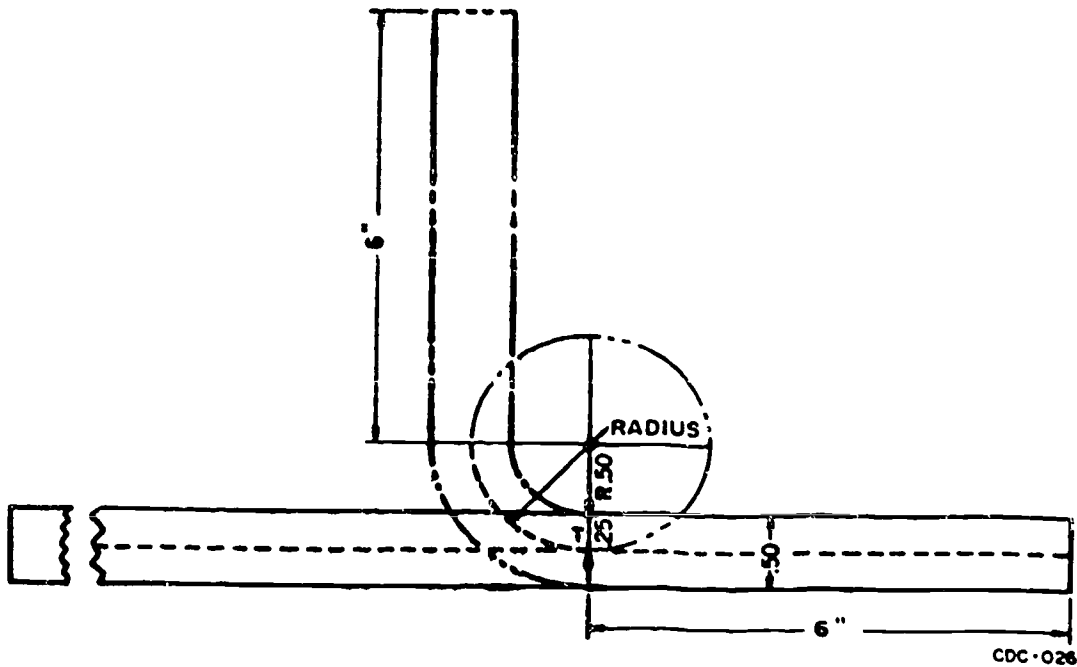

Figure 1-96. Bend allowance and length computation for a 90° L-shaped bracket.
**Example 1** (fig. 1-96). What is the bend allowance for a 90° bend which is to be made in plate that is 1/2-inch thick?